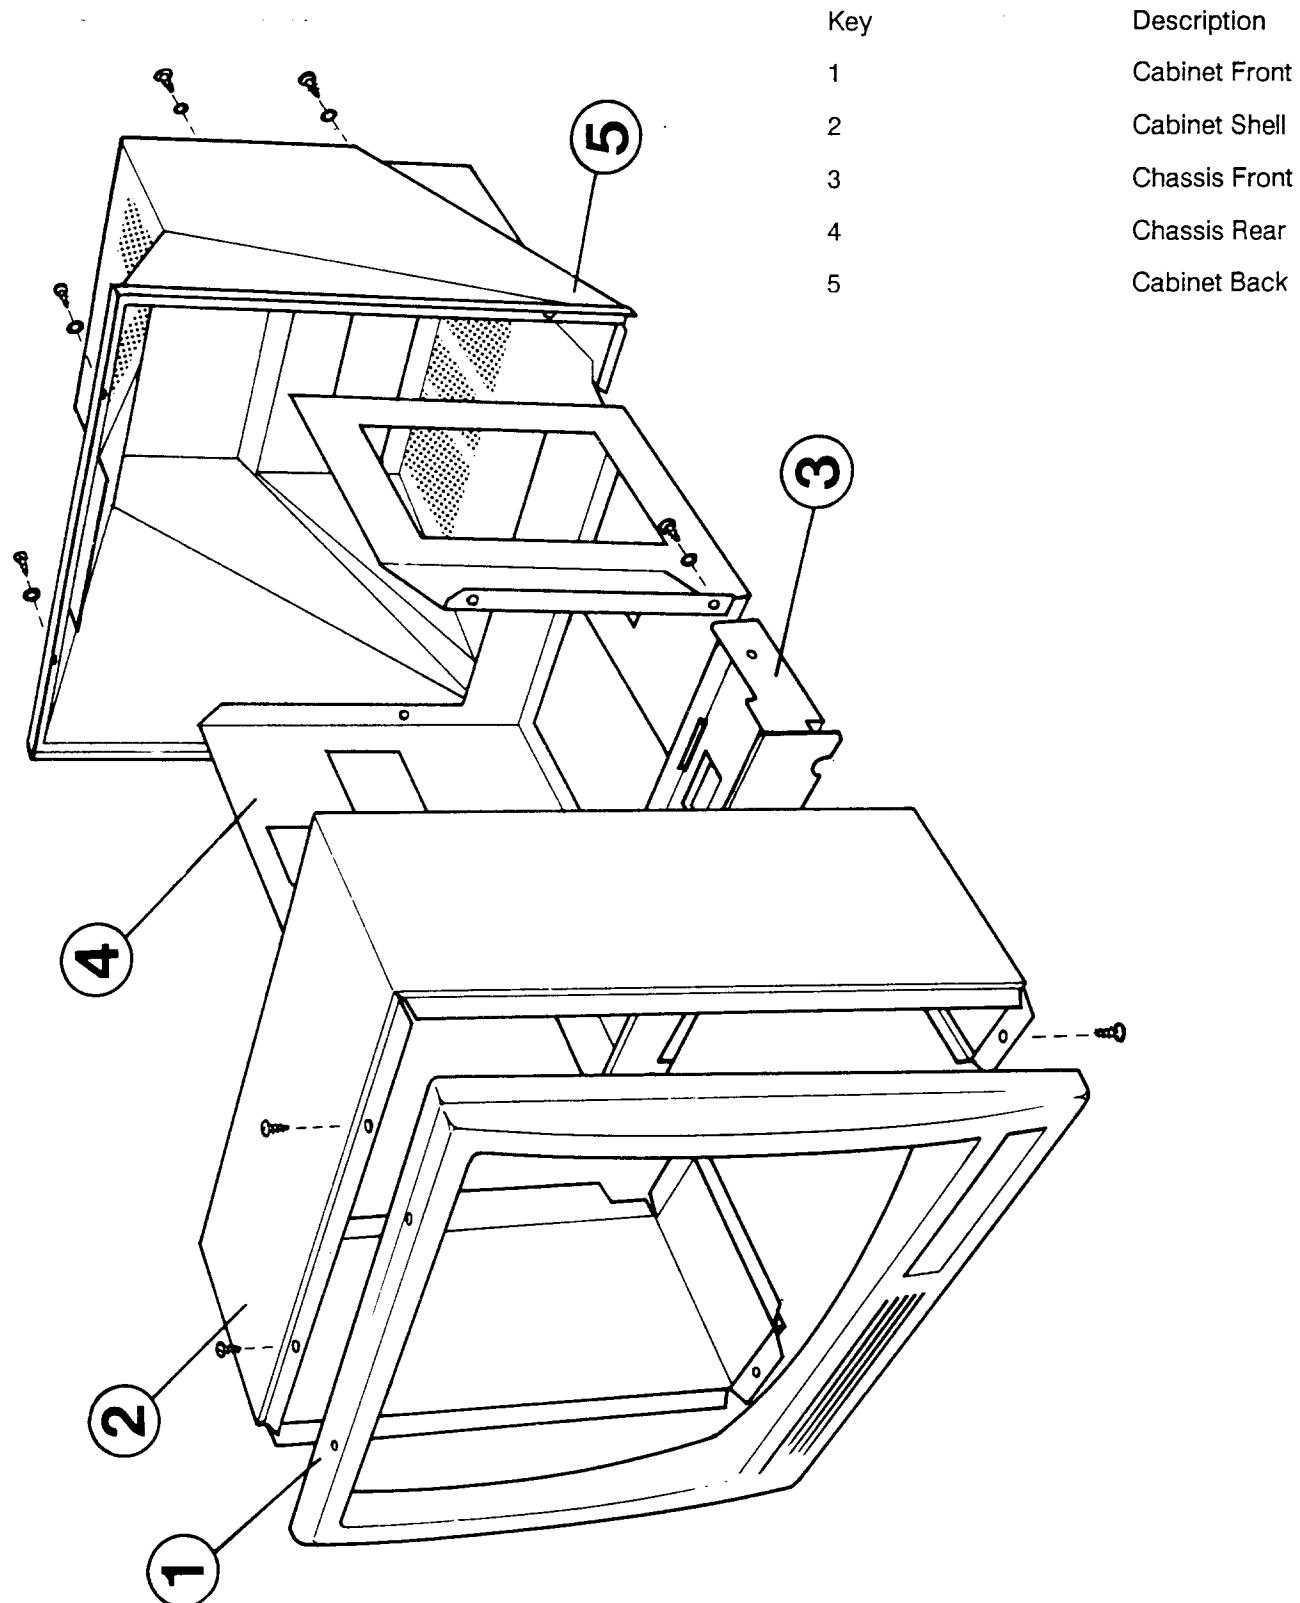

Fig E1 E SERIES EXPLODED VIEW
A general view of the cabinet and mechanical chassis construction is shown in Figure E1, E Series Cabinet: Exploded View.
To detach the Cabinet Front Moulded Fascia, item (1) from the Cabinet Shell, item (2) shown in Fig E1, E Series Cabinet: Exploded View.